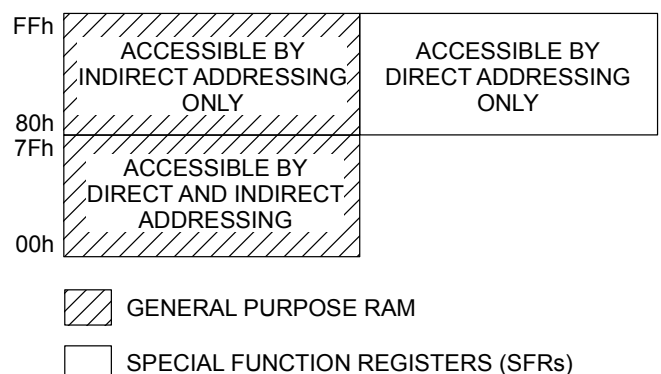

Figure 57: General Purpose RAM and SFR memory address overlap
Addresses 0x80 through 0xFF of General Purpose RAM are shared with the Special Function Registers. The mode of addressing determines which memory space is accessed as shown in Figure 57.
**Special Function Registers:** Special Function Registers are registers that affect the function of the 8051 core or its peripherals. These registers are located in RAM with addresses 0x80 through 0xFF. They are only accessible through direct addressing as shown in Figure 57.